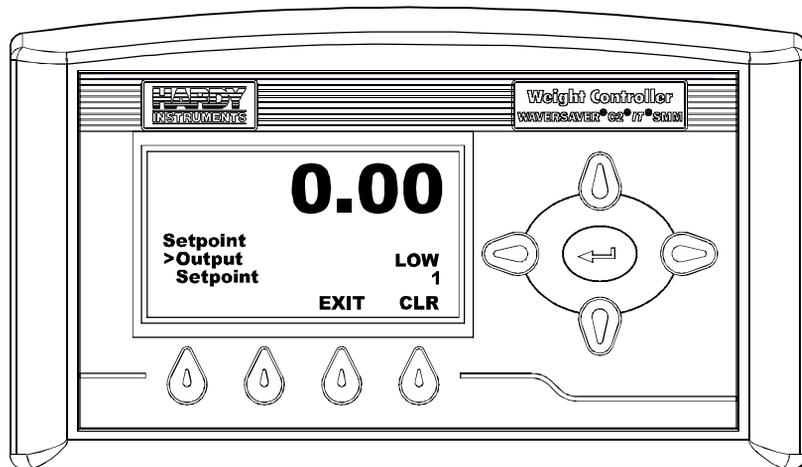

FIG. 65 SETPOINT MENU/READING OUTPUT
Step 28. Press the down arrow button until the cursor is in front of “Output”. (See Fig. 65)